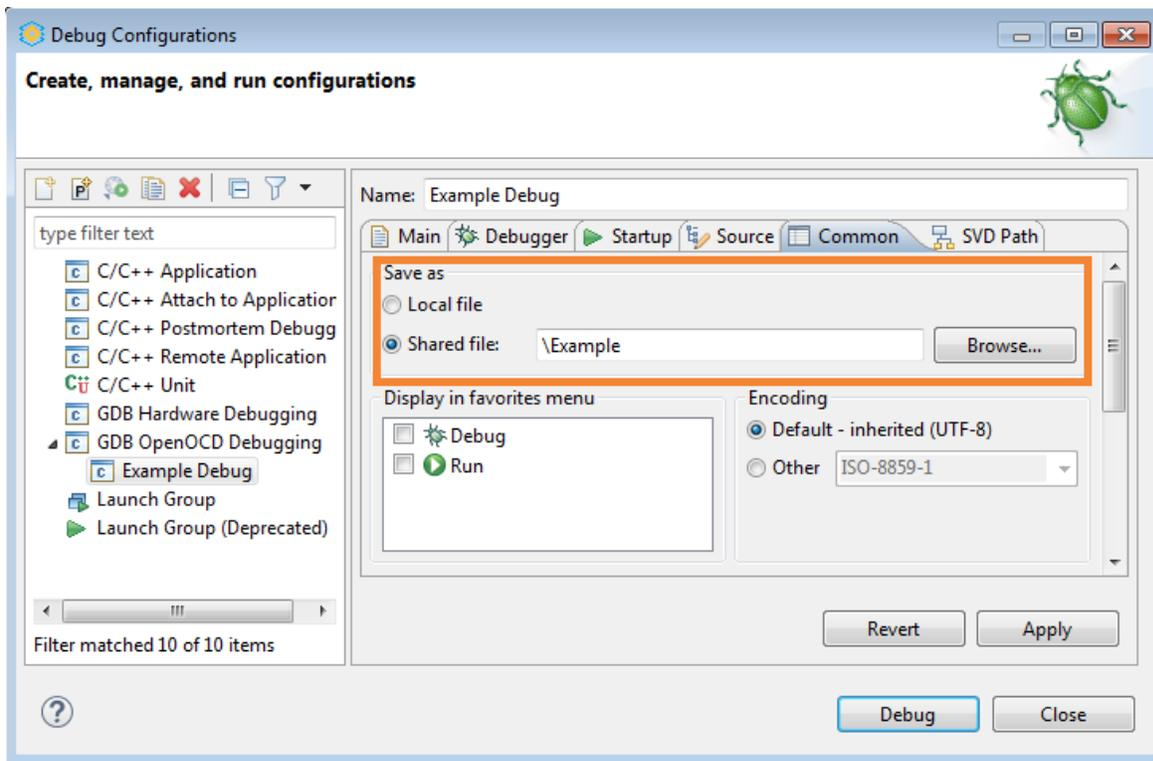

Figure 3.35 Common Tab of Debug Configurations
- (Optional) Select the **Common** tab (Figure 3.35). The **Save as > Local file** option is selected by default. This causes the debug launch configuration to be saved into the workspace.
- Click the **Debug** button (Figure 3.35).